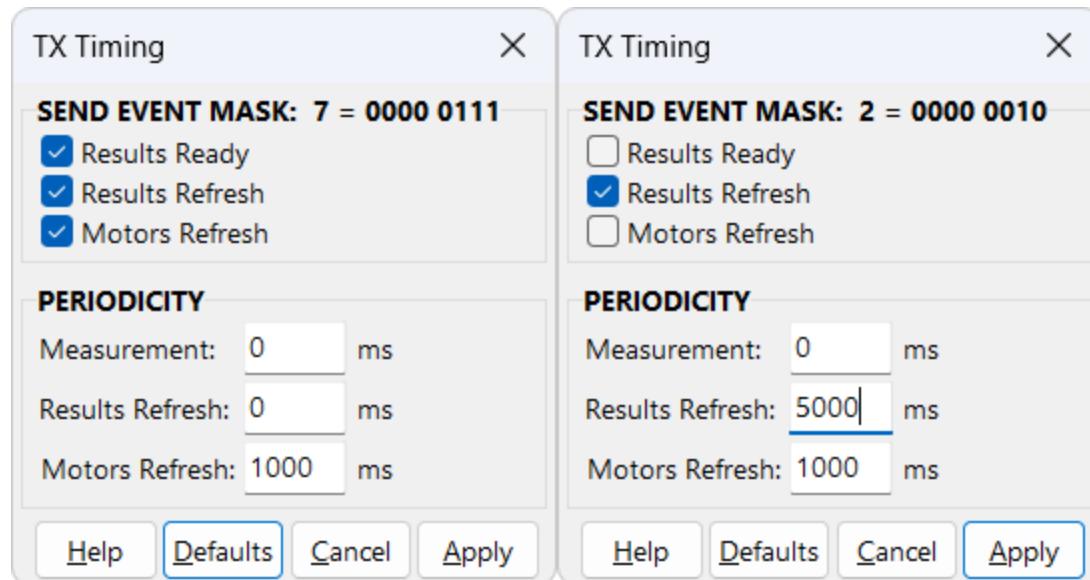

Fig. 19. TX Timing window. Left: defaults, right: as in the example below.
Clicking **Homer | TX Timing** opens the **TX Timing** window (Fig. 19) to define the cadence with which the measurement results will be updated and transmitted via the communication interface.
- Now, the **TX Timing** window should look like Fig. 19 (right). Click the button.